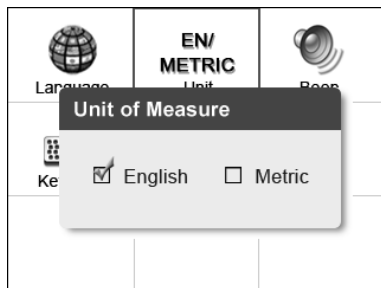

Figure 3-5
- 2) From **Unit of Measure** screen, use the **LEFT/RIGHT** scroll button to select the desired unit of measurement. (Figure 3-5)